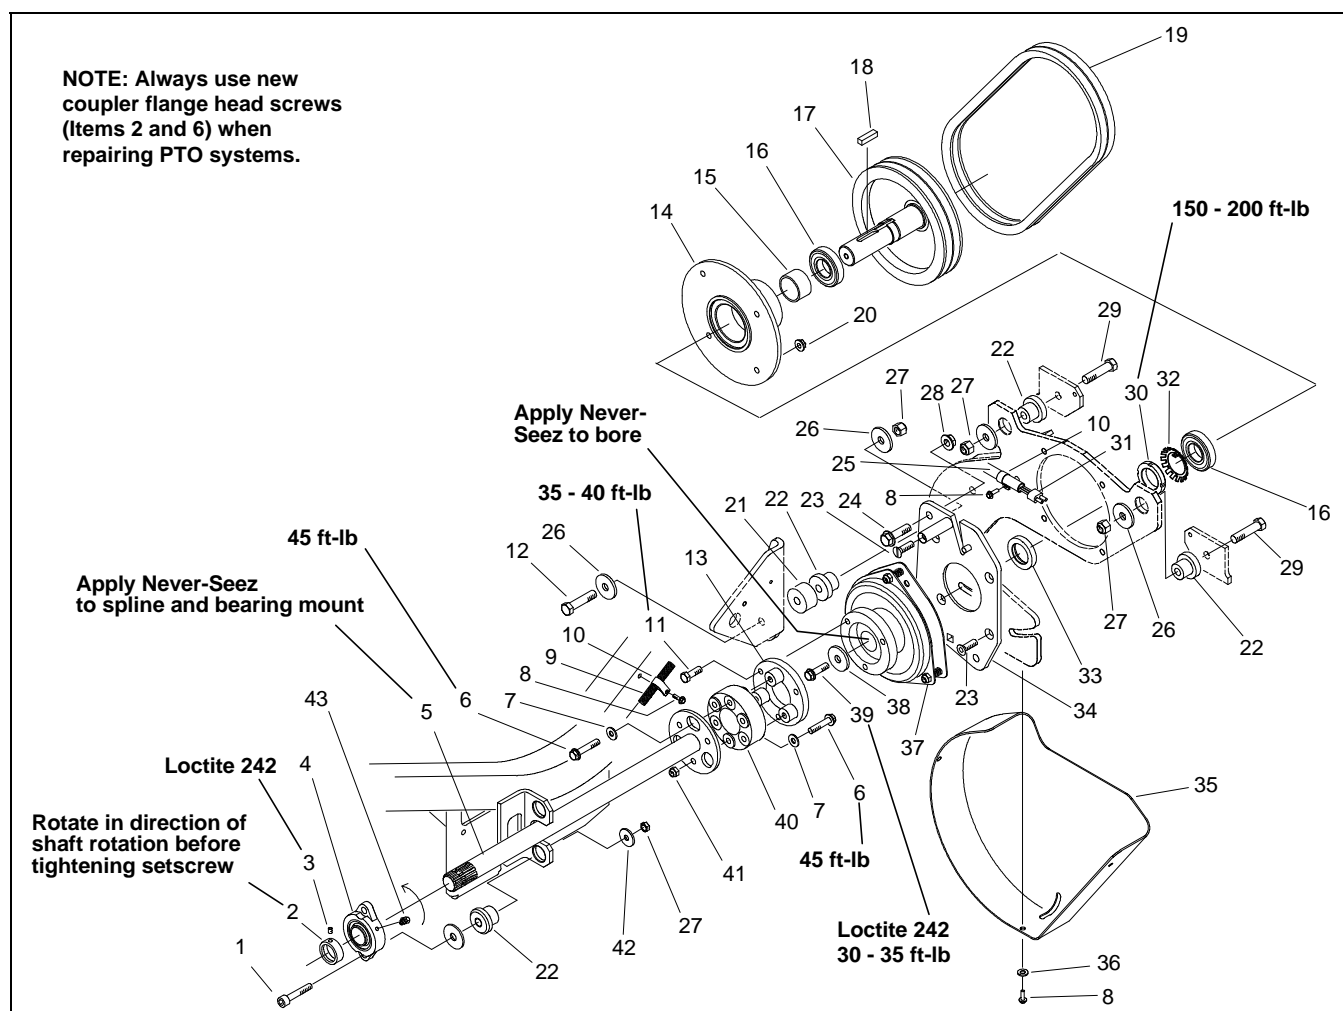

Figure 10
**NOTE:** A special tool (TOR4051) is required remove and install the bearing locknut (Fig. 10, Item 30).
3. Remove four (4) locknuts (Fig. 10, Item 20) and special screws (Item 23) securing lower bearing housing (Item 14) to clutch plate (Item 34).
13. Install lower bearing housing and pulley assembly to main clutch plate (Item 34) and secure with four (4) special screws (Item 23) and locknuts (Item 20).